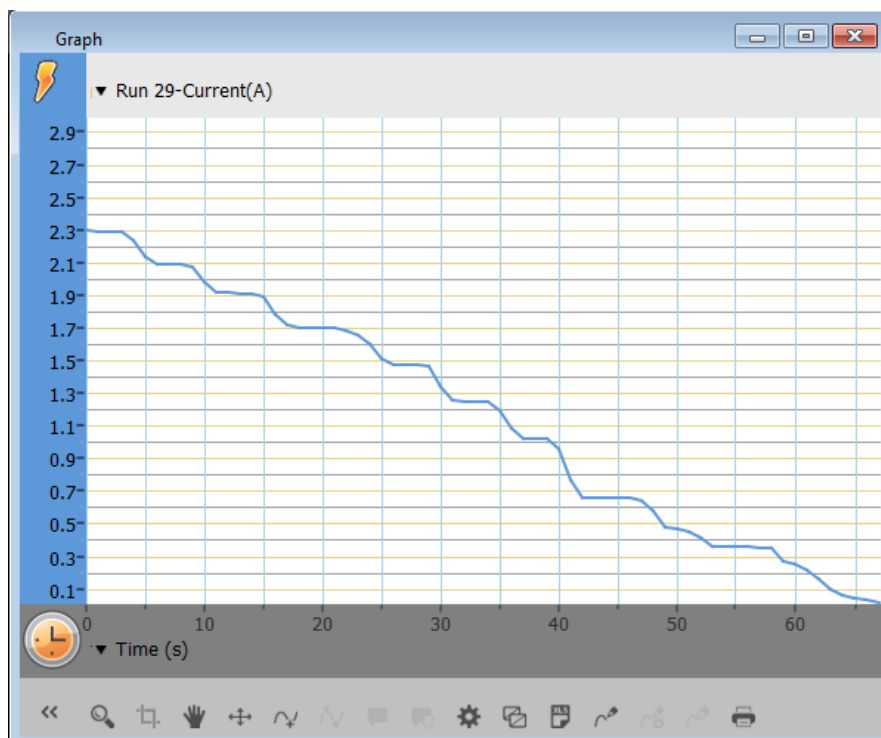

Figure 1. Sample graph from the above experiment
- See the expected results - Figure 1.